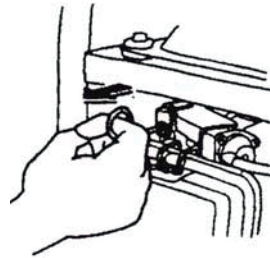

Fig. 23
- 4.4 Set the Choke Lever to OFF position (Figure 23)